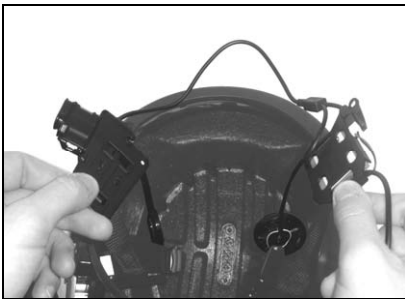

Fig. 20
- Position the Basic Kit2 inside the helmet as shown in figure 20 - 21, next to the N-com housing in the shell.